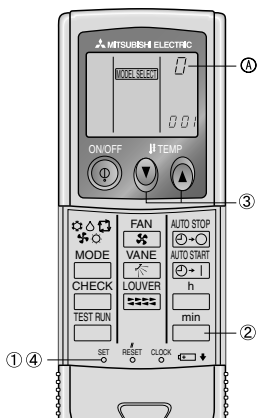

Fig. 6-5
3) Assigning a IR wireless remote controller to each unit (Fig. 6-5)
4) IR wireless remote controller pair number setting operation (Fig. 6-5)
- ① Press the SET button with something sharp at the end.